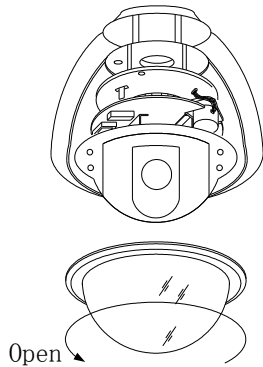

Figure 6
2. Rotate the vitreous cover counterclockwise and take out it. (see Figure 6) Note: It can be ignored the steps 2,3,4,5 while the protocol and address are matching with the controller.